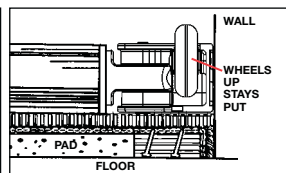

Figure 13
E. Turning the tail block over to its flat side prevents rolling and helps the tail block stay put. (See figure 13.)